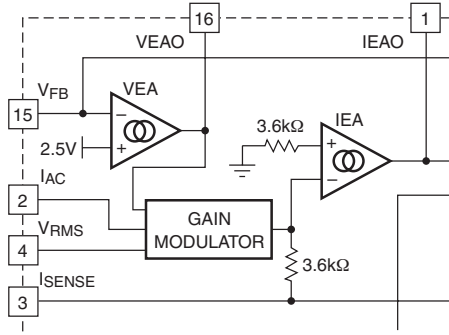

Figure 1. Gain Modulator and Voltage Error Amplifier
1. **A current representing a profile of input voltage.** This current is proportional to the instantaneous value of the input voltage at any given time. This current programmed by resistor R1, see Fig 1.